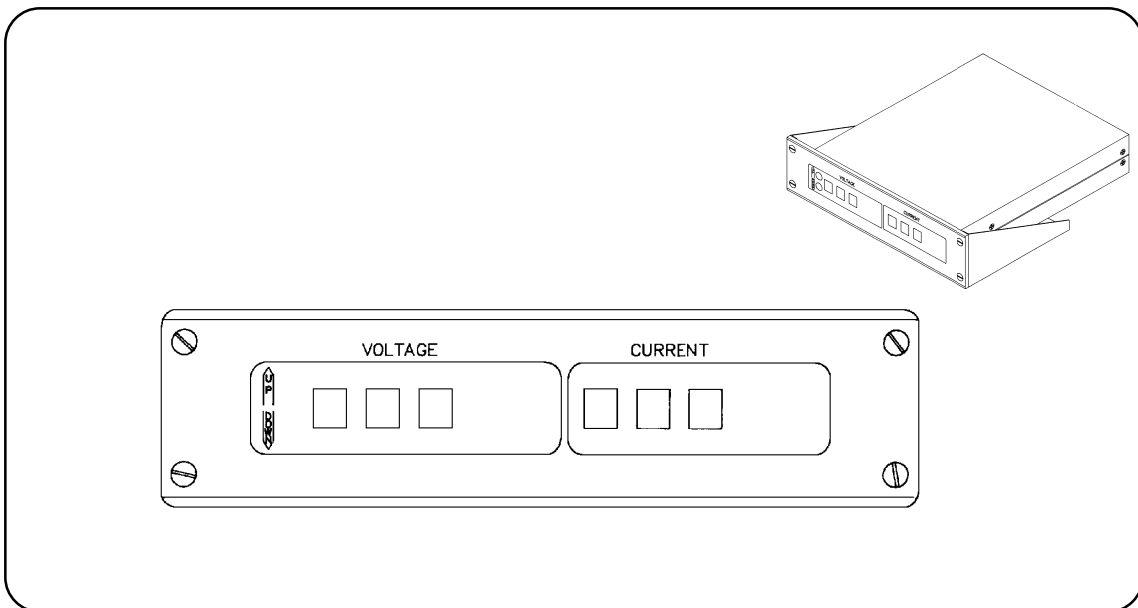

Figure 3-5 Programmable Remote (PR) V/C Front Panel Indicators
### Programmable Remote (PR) V/C Module (Fig. 3-5)